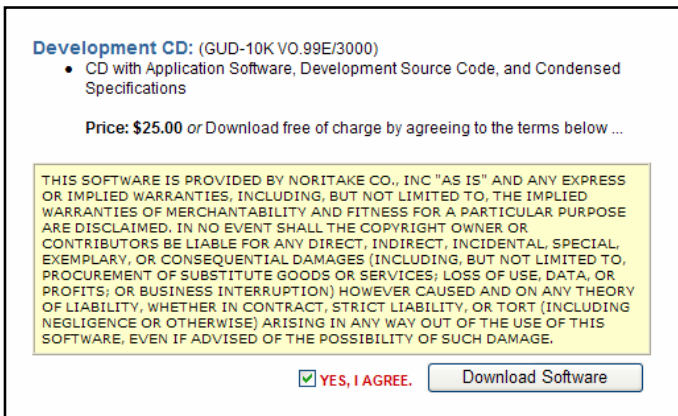

Fig. 2-9
2. Read the terms to download free of charge (Fig. 2-9).
3. If you agree the terms, mark the box "YES, I AGREE." (Fig. 2-9).
4. Click "Download Software" (Fig. 2-9).